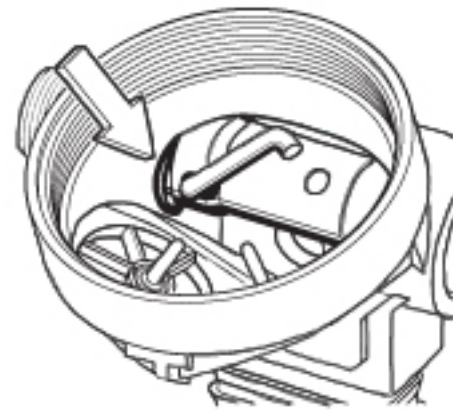

Figure 47 - O-ring bind-up
**CAUTION:** Do not apply undue force to press the valve body into place. Doing so may cause the O-ring (24) to bind up and become unseated, which may allow water to leak into the box bottom (see Figure 47). If bind-up occurs, remove the valve body and check to ensure that the O-ring has been dressed with a sufficient amount of lubricant.